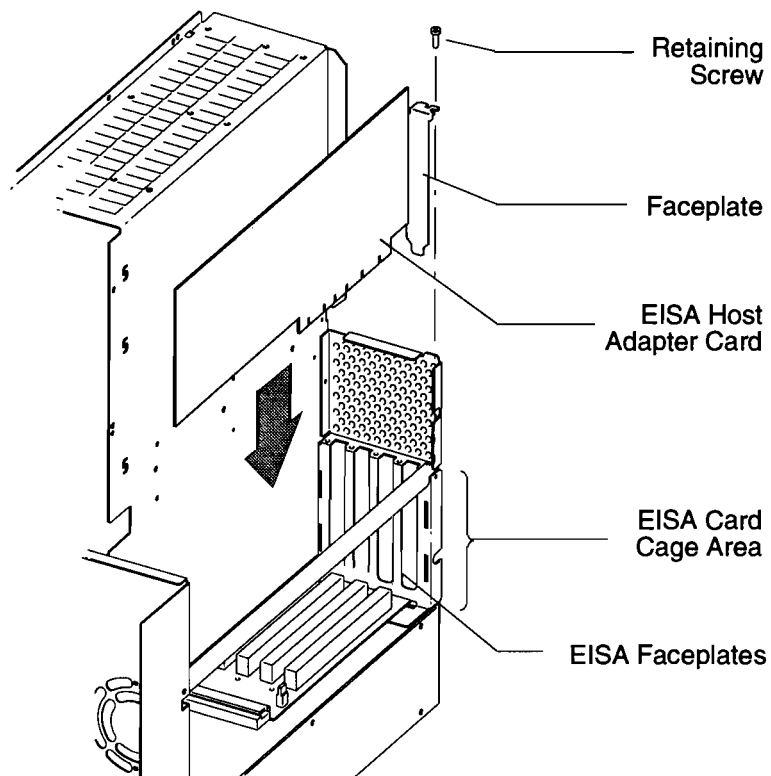

Figure B-13. Inserting the EISA Card
7. Remove the EISA faceplate on the EISA card cage slot where you plan to install the EISA card by removing the retaining screw that holds the faceplate to the card edge, as shown in Figure B-13.
8. Insert the EISA card into the card cage and install the retaining screw, as shown in Figure B-13. Make sure that the retaining screw is fully seated.